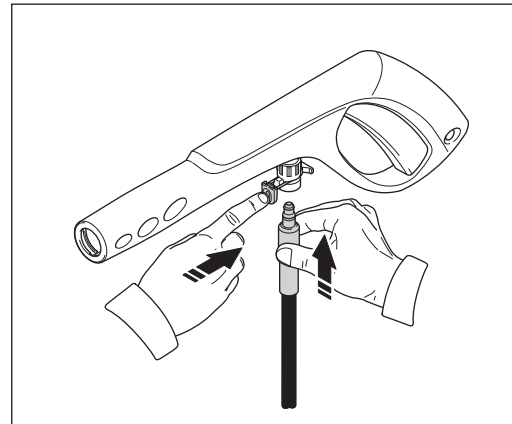

Fig. 6
- Connect the other end of the high pressure hose to the spray gun by inserting the brass metal tip of the high pressure hose into the fitting just ahead of the trigger guard. It will lock into the spray gun with a “click” (**Fig. 6**). Confirm the hose is locked into the spray gun by pulling slightly on the hose. The hose is now securely attached to the spray gun.